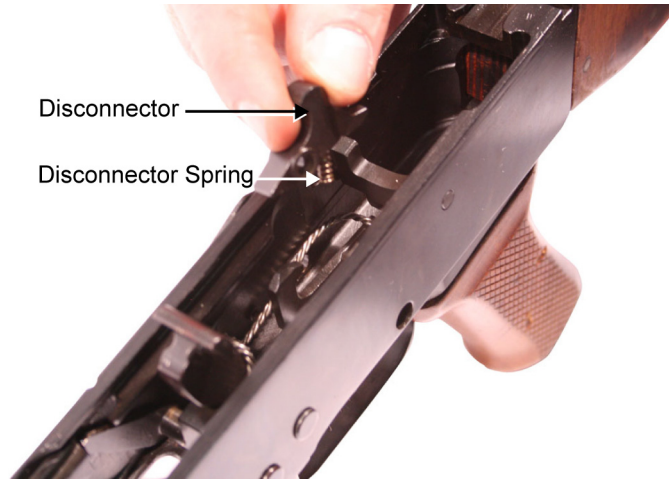

Figure 41. Installing the Disconnecter and Disconnecter Spring.
- i. Install the disconnecter into the trigger. Ensure that the hole in the disconnecter aligns with the hole in the trigger. Refer to Figure 41.